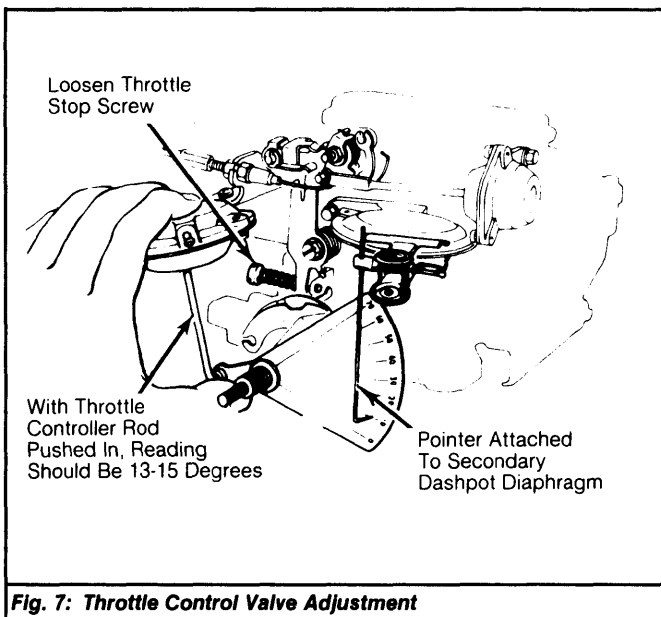

Fig. 7: Throttle Control Valve Adjustment
2) Align pointer to "0" degree mark on protractor, then push throttle controller rod all the way in. Pointer should read 13-15 degrees. See Fig. 7.